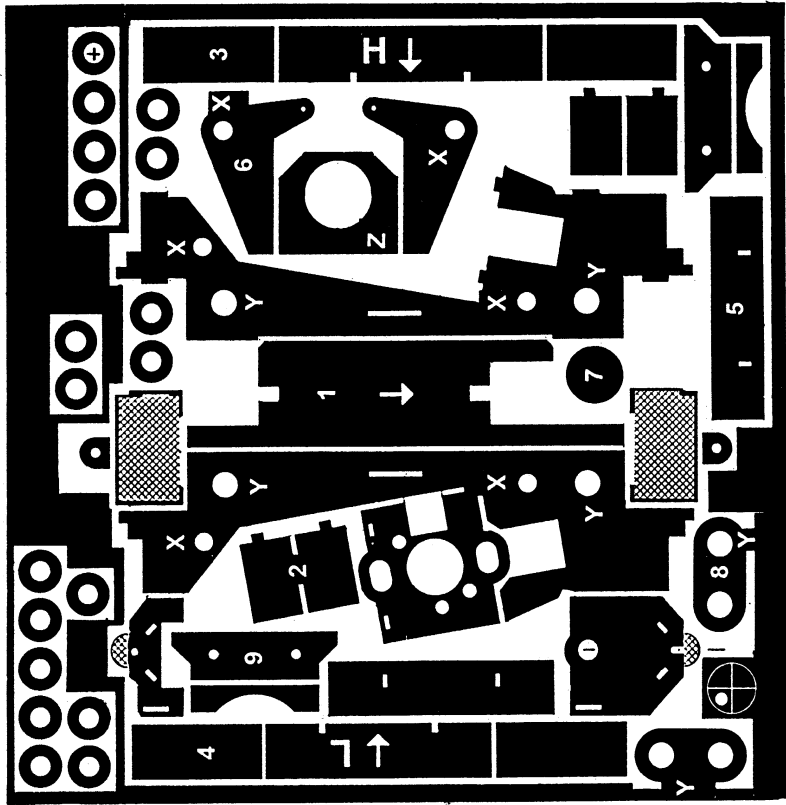
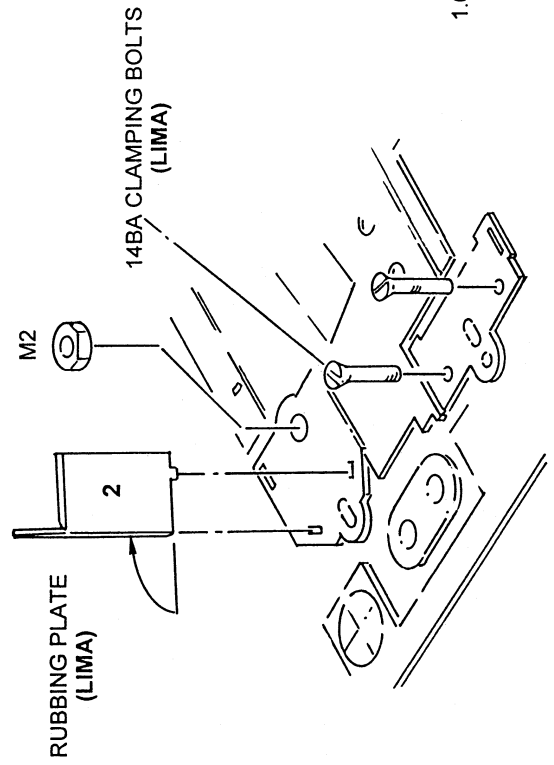

FIG. 1 ETCHED FRET
FIG. 3
Before cutting any components from the fret, open out the various **holes** in the etch as indicated in Figure 1. Their size is important to the alignment of moving parts and the more care you take to get a perfect fit, the better the bogie will run. Sloppy, over-large or off-centre holes may cause poor running and correction is hard work. It's much better to get things right first time, even if it calls for a little extra effort. Use a reamer to open out all holes marked "X" so the gear shafts are a tight fit. Deburr the holes by twiddling them with a large drill bit. Open up holes "Y" so the axle bushes are also a close push-fit. Carefully, open out the hole in the rear motor mount "Z" until it fits tightly over the large boss on the rear of the motor. (A flat file with a tapered end is a suitable tool to do this).
Remove the **mainframe** (1) from the fret and clean off any tabs, being careful not to file off any tabs used for part location. For a **Hornby** model, identify the front and rear fold-up spacers on the bottom of the mainframe (these are shown shaded in Figure 1). Bend them repeatedly until they snap off, then trim off the small semi-circular protrusions (also shown shaded) on the top folding spacers. If your bogie is for a **Lima** model (Figure 3), retain the semi-circles and the two fold-up plates, and solder two 14BA clamping bolts into each of these folding spacers with their heads on the same side as the bend lines. If you are not using the adjustable rollers, fold the L-shaped **rubbing plates** (2 x 2) through 90 degrees. Locate them in the corresponding slots in the top folding spacers (on the same side as the bend lines) and solder in position, checking they are square. For **kit-built** locos, it is advisable to leave all these parts in place, keeping as many fixing options open as possible.